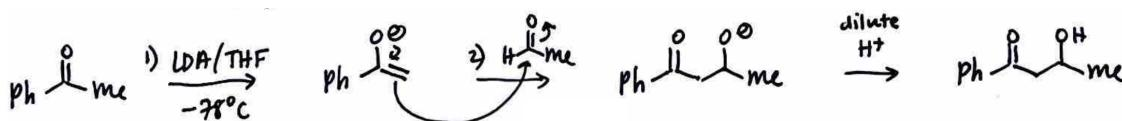

Figure 5.34: Modern cross-aldol reaction.
- Analogously to Figure 5.34, use LDA!